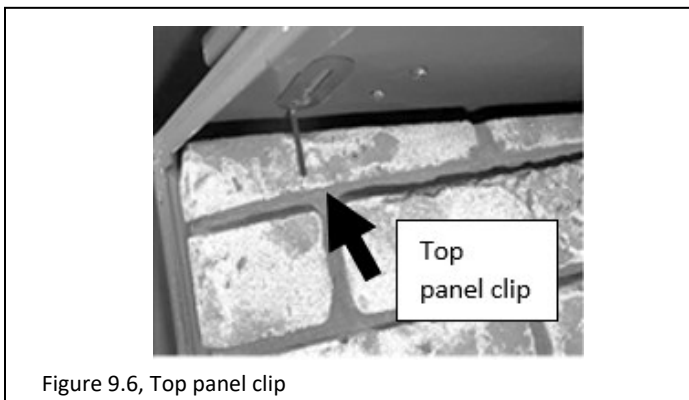

Figure 9.6, Top panel clip
2. Install side refractory by sliding top of panel up and into position. Secure with panel clips previously bent (Figure 9.6).
3. Install side refractory by sliding top of panel up and into position. Slide bottom of refractory until tight to side of firebox. Secure side refractory with bottom panel clips and (4) screws (Included in kit).
4. Install top refractory clips previously bent (Figure 9.6).